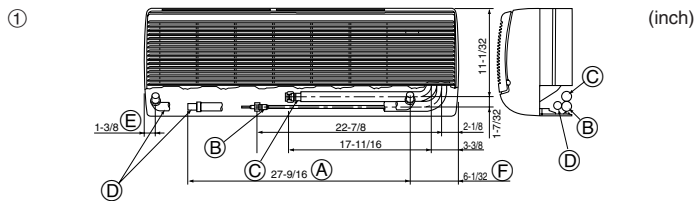

Fig. 4-2
① Position of refrigerant and drain piping (Fig. 4-2)